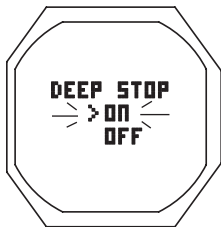

Fig. 50 - SET DEEP STOP
**Set Deep Stop**, information includes (Fig. 50):